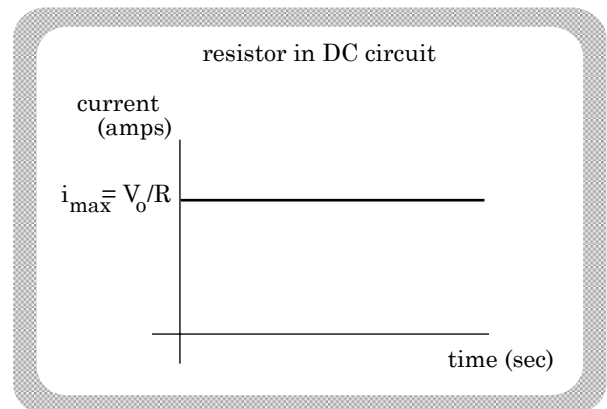

FIGURE 17.23
a.) First, if the circuit were comprised of nothing more than a *resistor* across the power supply, the voltage difference generated by the power source would create an electric field that would motivate all the free charge-carriers in the circuit to move at once. Current in the circuit would immediately be observed (the *electric field* sets itself up at just under the speed of light), its magnitude would be V_0/R , and its *current versus time* graph would be as shown in Figure 17.23.